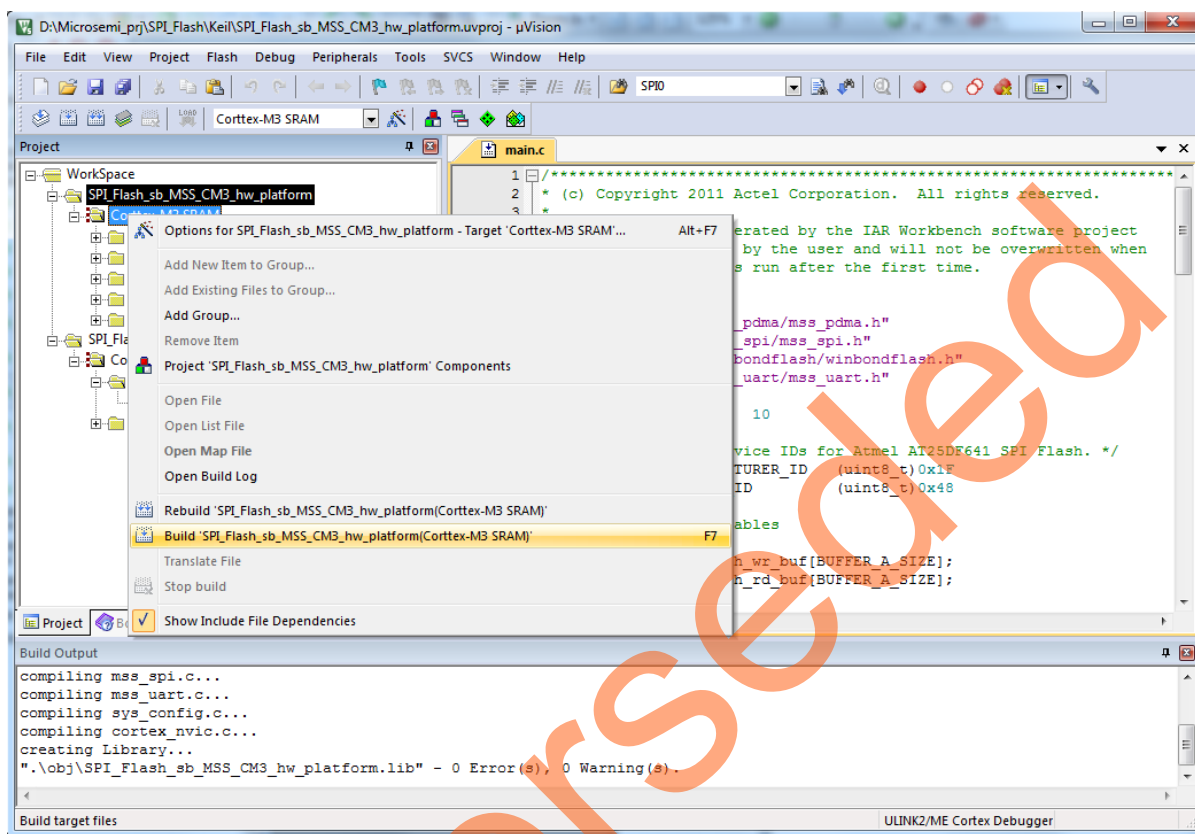

Figure 25 • Build HW Platform Window
9. Right-click **Cortex-M3_SRAM** under **SPI_Flash_sb_MSS_CM3_hw_platform** and select **Build SPI_Flash_sb_MSS_CM3_hw_platform (Cortex-M3 SRAM)** as shown in Figure 25.